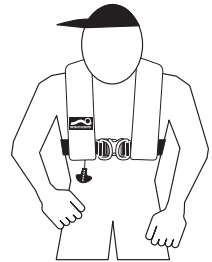

Figure 12
**WARNING: Safety harnesses are designed to be worn at the chest area to provide the wearer with the least injury potential should the user be subject to sudden high shock loads.** The harness belt should be worn as high on the chest as possible but in all cases at least **2 inches (5 cm) above the lowest rib** measured from the bottom of the belt (see Figure 12). **Failure to correctly wear the safety harness may result in serious injury, or even death.**